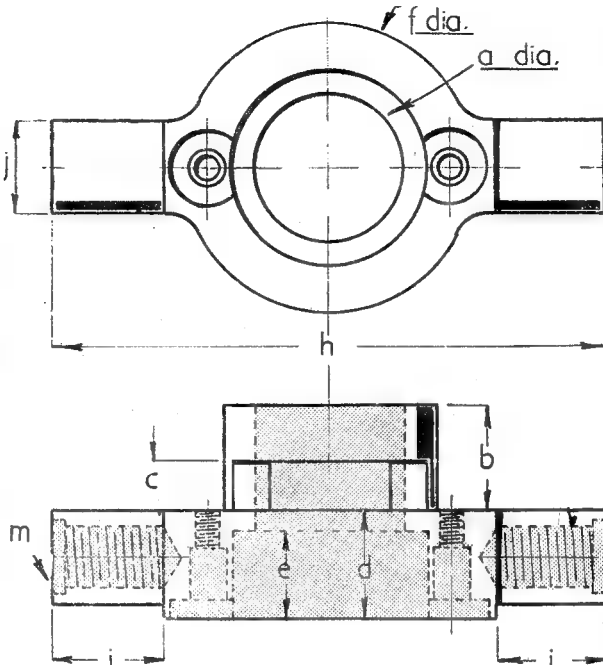
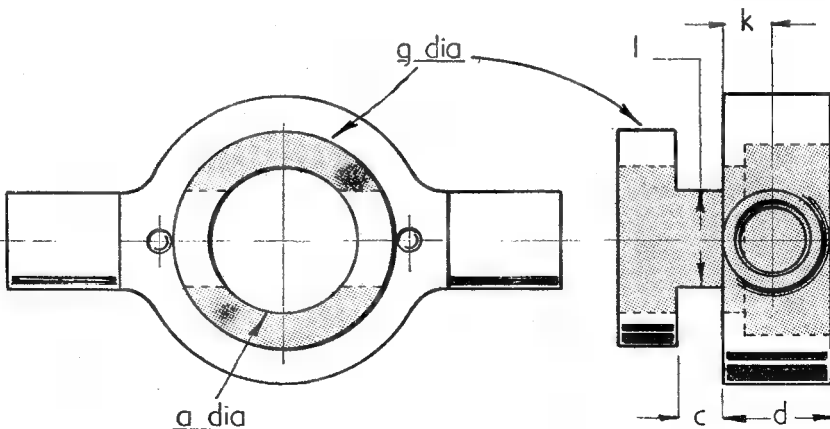

Fig. 8
Fig. 9
Fig. 8. Eclipse No. 3 chuck-type pin vice to approximate. ("A") Hardened jaws permanent shell insert. ("B") Knurled chuck cap. ("C") Knurled main body. ("D") Knurled hollow shaft
size chosen has a nominal chuck capacity of 0.05 to 0.125 in., i.e., handling drills from Nos. 54 to 30, this including the standard shank dental drills or "burrs," of which more anon. Fig. 8 and Fig. 9 (top) shows the No. 3 model chosen, the chuck jaws (A) being a separate split shell
Fig. 9. Top—Eclipse No. 3 chuck-type pin vice, gripping rose head-type dental drill. Centre—Spindle fully machined with extension driving spigot pinned in position. Lower centre—Left, nose-piece casing; Right, extension casing. (Main bearing bush pressed in front of nose-piece) Bottom—Left to right. Chuck cover hood, case-hardened washers and brass cage of thrust-race, rear bearing, and terminal securing collar
and inserting a  $\frac{3}{32}$ -in. drill: it should run truly and be tightly gripped (Fig. 9, middle).
The terminal securing collar is mild-steel turned  $\frac{7}{16}$  in. diameter,  $\frac{1}{4}$  in. long, bored No. 2 drill and drilled transversely  $\frac{1}{4}$  in. Whit. tapping drill, which is then tapped for two small  $\frac{1}{4}$ -in. Whit. securing set-screws (Fig. 9, bottom). The nose-piece is now ready for assembly, the front and rear bearings having been checked independently for running fit on the main chuck spindle. The chuck spindle, with nose cap fully tightened, is now inserted, a clearance of at least  $\frac{1}{16}$  in. being allowed between recessed shoulder of chuck cap and face of the bushed nose-piece body, this being secured by ■ cardboard washer which can be later cut away. The rear end of the body is then held upwards and the thrust washer with No. 2 drill size hole pushed down to seat snugly on the shoulder of the shaft, the ball cage loaded with grease, with balls imbedded, is then pushed down followed by the second thrust washer No. ■ size drill centre hole. The rear bearing is then pushed gently down until home against the thrust washer, the main spindle not having been disturbed: opposed pilot holes are then drilled through the casing over the inserted rear bearing bush to register on the bush within, and this is then gently withdrawn, drilled 6 B.A. tapping drill and threaded, the casing holes are enlarged to 6 B.A. clearance and countersunk; the bush is reinserted and fixed with countersunk-head 6-B.A. set-screws, short enough to clear the bore. The terminal collar is now pushed on and the cardboard spacer under the chuck cap cut away, any slack in the thrust bearing is taken up, and the terminal collar secured by the set-screws.
The finished dimensions of this part are indicated by letters in the working drawings in Figs. 8 and 9; these letters refer to the figures given in the accompanying Table, Fig. 10. It will be seen that this Table, as well  $\blacksquare$  others that follow, has the dimensions set out in three horizontal lines: A, B, and C; these refer to die-holders for use with  $\frac{1}{8}$  in., 1 in., and 1  $\frac{1}{8}$  in. dies respectively, and this scheme will be adhered to throughout. The